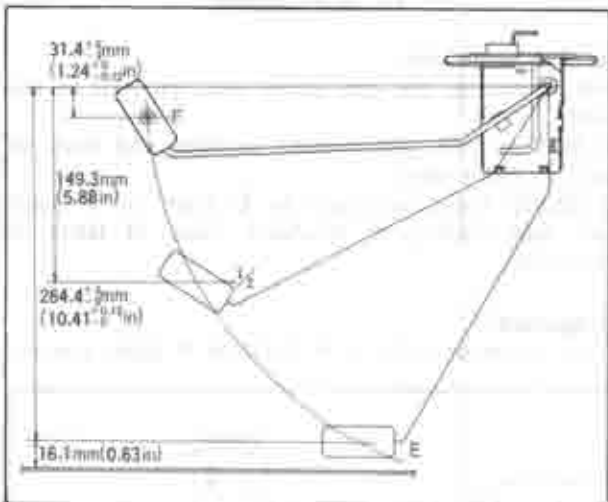

Fig. 15-10 Adjusting unit arm
- a) Move arm until reading concurs with standard resistance value indicated in Fig. 15-10, and check height of float at that time (horizontal distance between center of float and fulcrum arm).